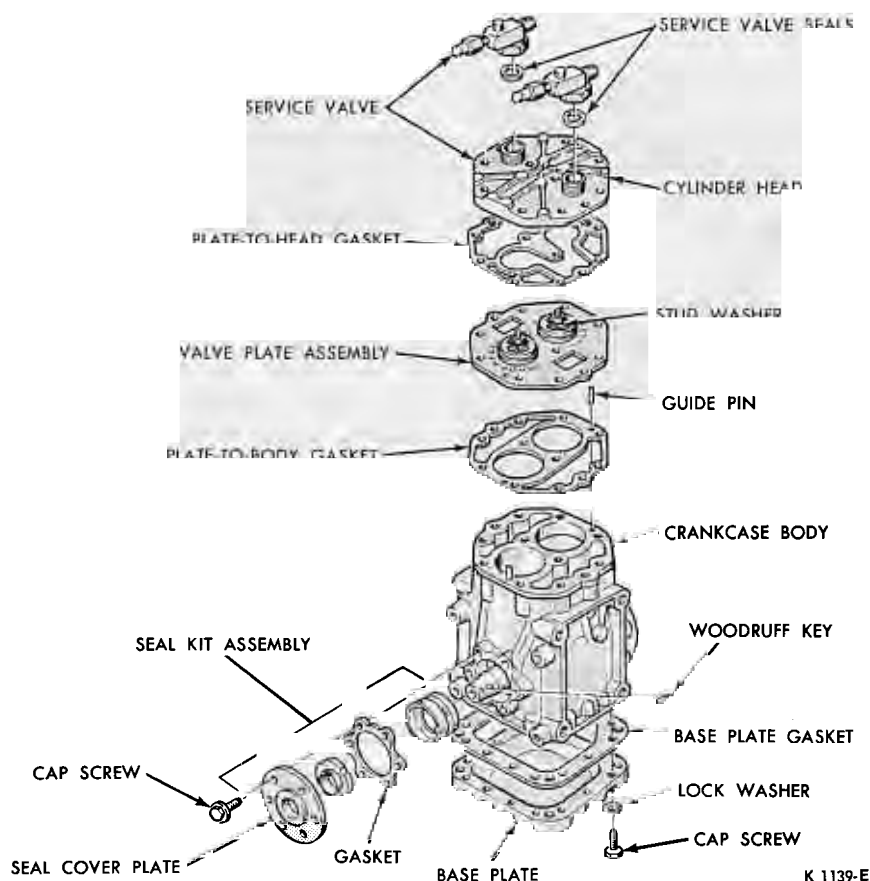

FIG. 13—York Cylinder Head and Valve Assembly
2. Remove the cylinder head and valve plate from the top of the compressor body (Fig. 13). Do not tap or hit the head with any hard tool, as damage could result (York compressors are made of aluminum).
4. If the cylinders and pistons are in good condition, check the valve plate and valve reeds for damage. If the valve assembly is in good condition, it can be used again. If the valve plate is damaged, install the entire replacement kit which includes the valve plate, valve reeds, and the two gaskets (Fig. 13).
1. Starting with the valve plate gasket, assemble the parts in the order shown in Fig. 13. Insert the cylinder head bolts carefully to avoid damaging the gaskets. Before assembly apply a film of new refrigeration oil to both sides of both gaskets.
5. Remove the carbon seal ring and seal housing assembly from the crankshaft. A disassembled view of the crankshaft seal assembly is included in Fig. 13.